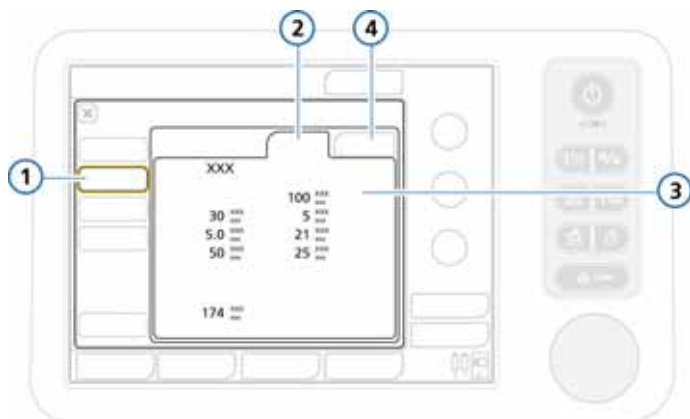

Figure G-9. Mode controls configuration
7. Touch **Vt/IBW** (or **Vt/Weight** for neonatal) to set the tidal volume per IBW or weight (neonatal). See Figures G-9 and G-10.